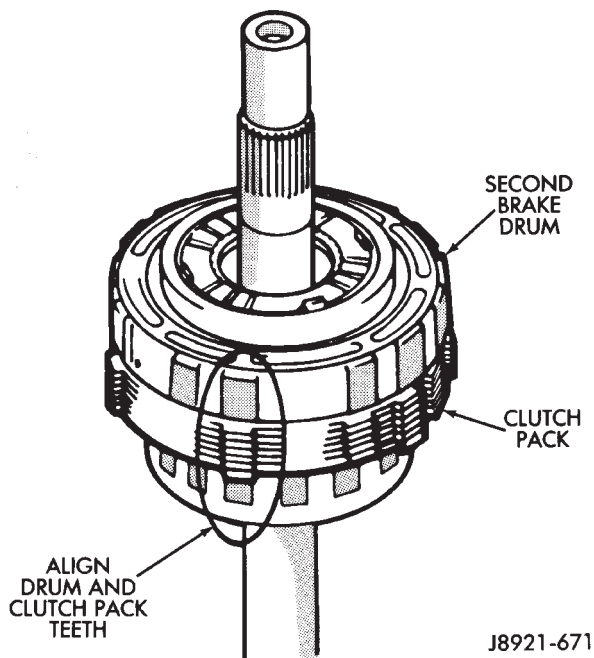

Fig. 4 Aligning Second Brake Drum And Clutch Pack Teeth
(7) Align teeth of second brake drum and clutch pack (Fig. 4).